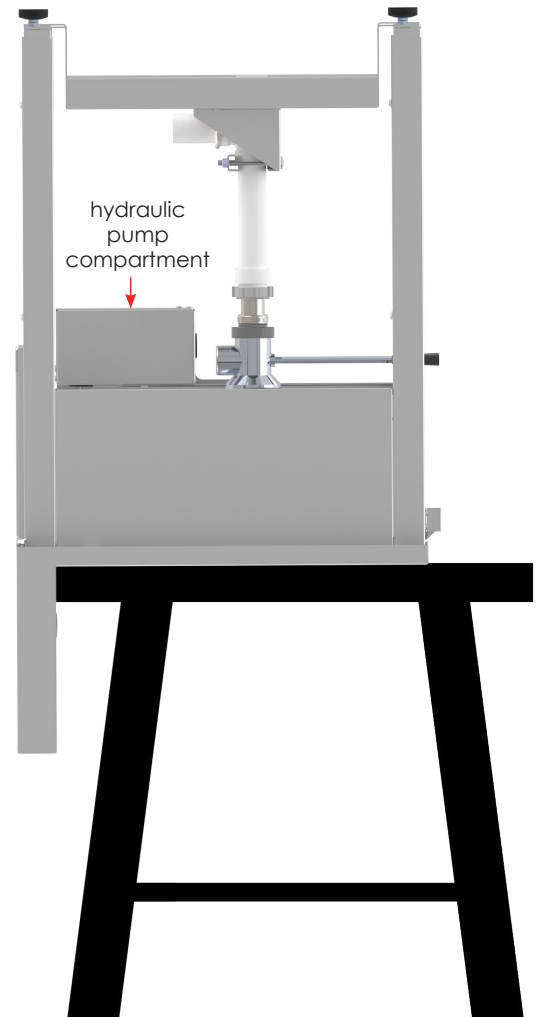

Fig. 1: Turn sink upside down on supports
6. The triple basin sink is very heavy. At least four people will be needed to lift, turn the sink over and set the sink flat on its top on the supports (Fig. 1).